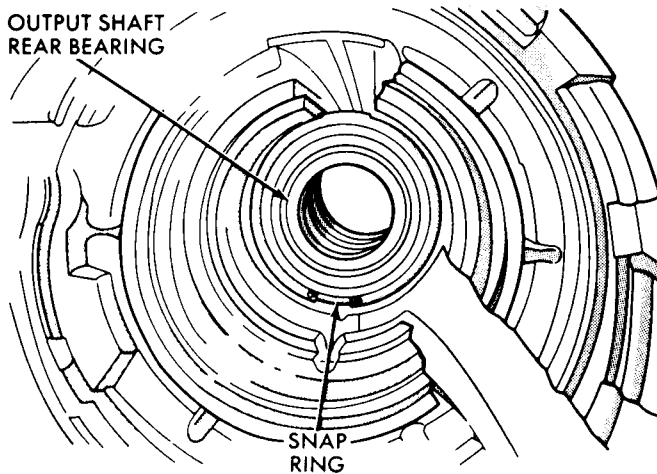

Fig. 13—Output Shaft Rear Bearing Snap Ring
(9) Using locking snap ring pliers, remove output shaft rear bearing snap ring (Fig. 13). Tap overdrive case downward on bench to remove rear bearing.